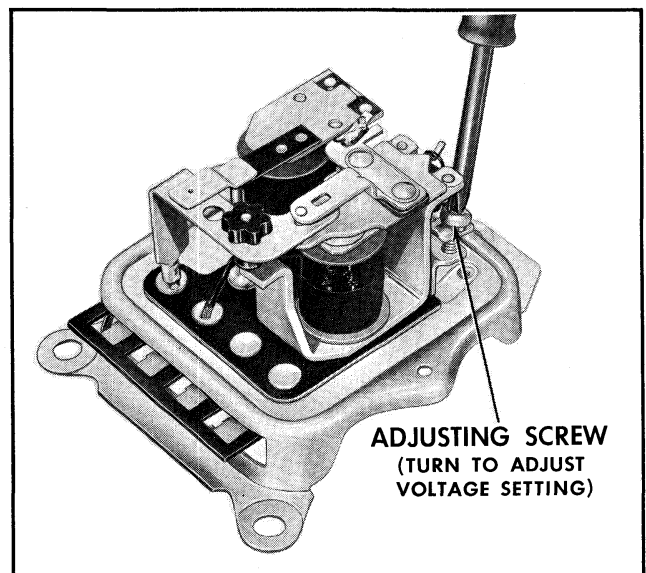

Fig. 11-38 Adjusting Voltage Setting
E. To adjust voltage setting, turn adjusting screw as shown in Fig. 11-38. **IMPORTANT:** In order to prevent accidental grounding and consequent damage to internal regulator parts while removing cover or replacing cover always perform the following steps "a" through "e" in the order listed.